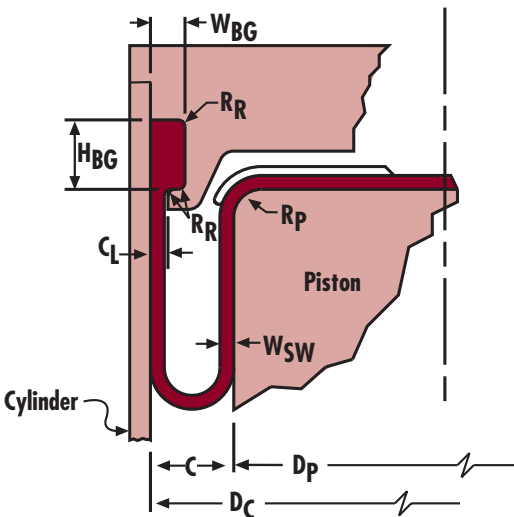

Fig. 33: Radial Compression (note 1) with Cast Machined Retainer Plate
1. Alternate construction use where adequate clearance is available, or where reduced half-stroke is usable. (see Fig. 33)
**Cast or Machined Retainer Plate (fig. 33)** – An alternate design shown is a machined, cast, or tip retainer which allows for retention of the bead at the open end of the cylinder shell. The diaphragm bead and retainer bead groove are dimensionally the same as the previous method discussed.